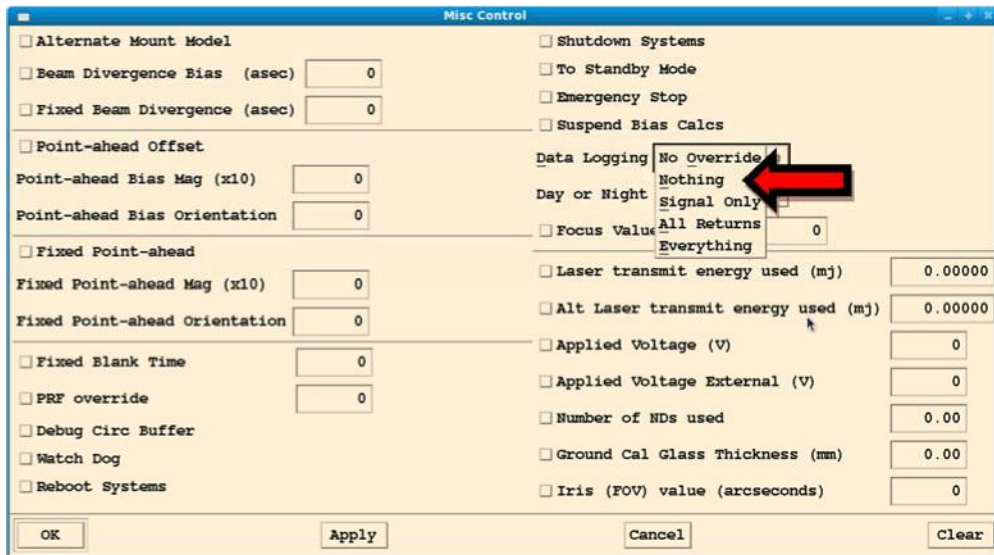
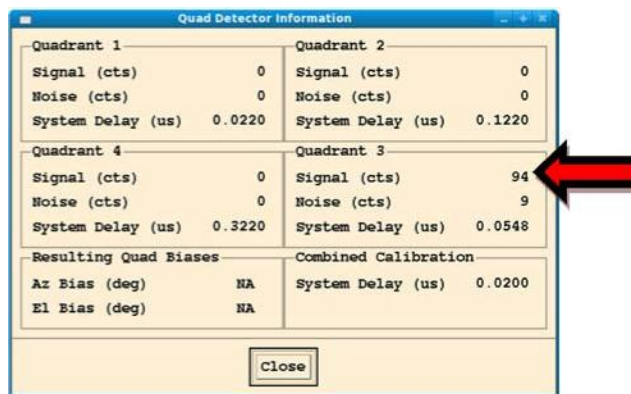

Figure 6-11: Misc Control window
Figure 6-14: Quad Detector window
7. Open the Control => Misc menu – From the Data Logging pull down menu, set Nothing (Figure 6-11).
12. Go to View => Quad Detector window to show the actual signal counts (Figure 6-14)
13. Verify that the system is receiving between 40 and 200 signal counts (Figure 6-14) – If necessary, adjust the rotary ND filters to achieve the appropriate number of returns (See note below).
Adjusting the Rotary ND filters: The default number of ND's applied by the rotary ND's is 2.0. Look at the signal counts shown in Figure 6-14. If it isn't in between 40 and 200, remove or add ND's using the **Number of ND's Used** entry in the **Misc Control** window to get the number of returns within an appropriate range (Figure 6-11).